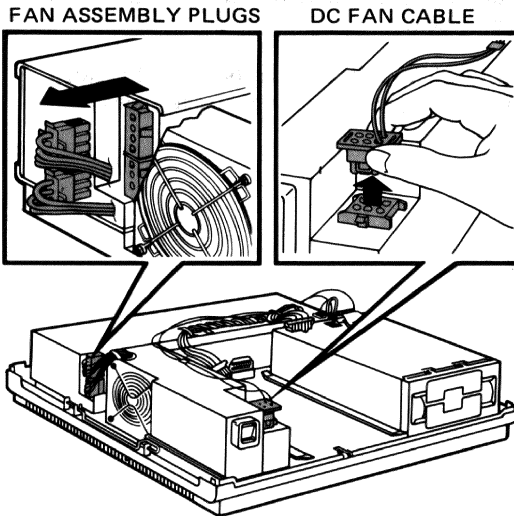

Figure 5-25 Unplugging Fan Assembly Plugs and DC Fan Cable
2. Remove the fan assembly plugs from your power supply by pinching the sides and pulling hard (Figure 5-25).
3. Unplug the dc fan cable from the front of the fan assembly (PC100B only). See Figure 5-25.